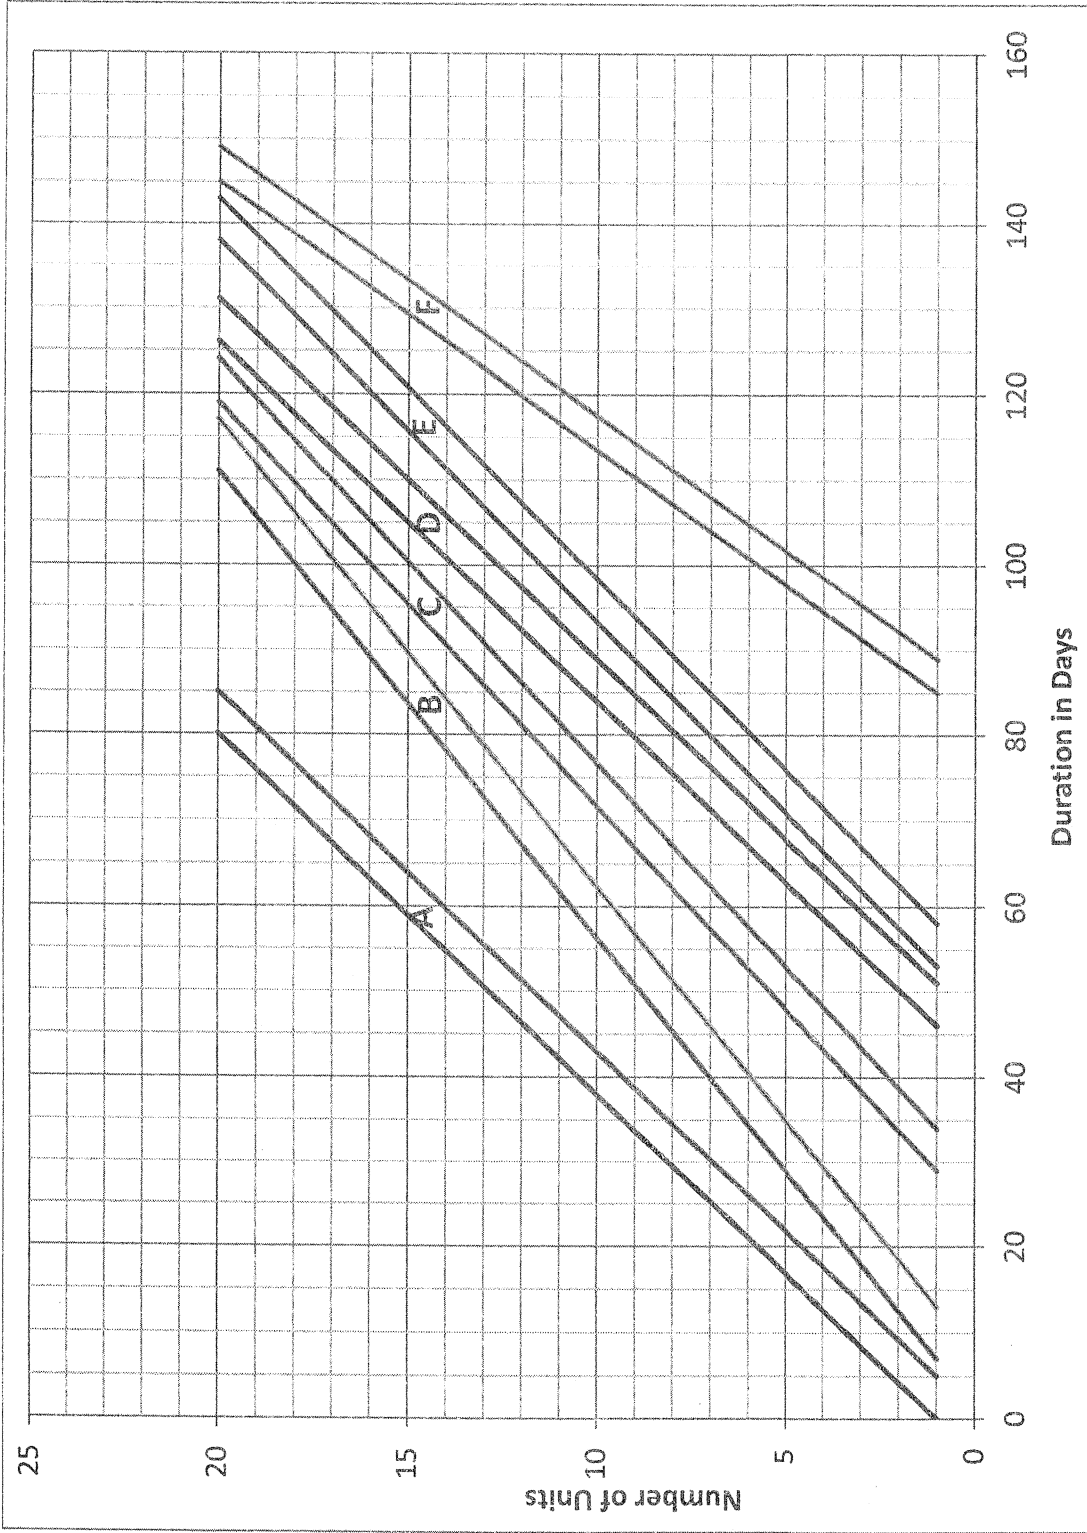

Figure Q3: LOB Diagram
- Q3. a) Figure Q3 is a prepared Line of Balance (LOB) diagram for a construction project having 20 number of identical housing units. Table Q3 gives the data used for the LOB diagram. Each unit has mainly six sequential activities. After preparing the LOB diagram, client is not satisfied with the proposed completion date. Then the contractor proposed several options as in below (i) to (iii). Calculate the total project duration for each option. Assume that activity duration changes are negligible with these changes.